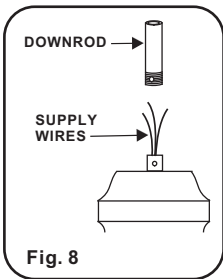
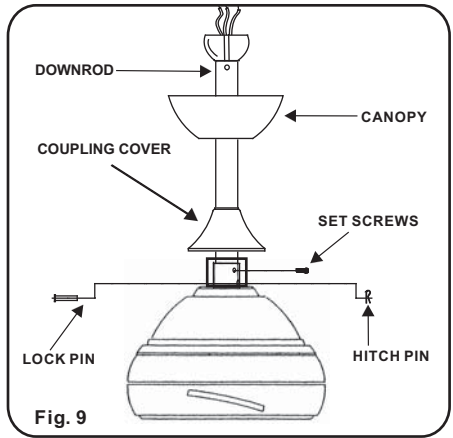

Fig. 8
Fig. 9
Step 4. Carefully feed fan wires up through the downrod. (Fig. 8) Thread Downrod into the Coupling until the holes are lined up and secure with the Lock Pin and Hitch Pin previously removed, tighten Set Screws. (Fig. 9)
Step 5. Slip Coupling Cover and Canopy onto Downrod. Carefully re-install the Hanger Ball onto the Downrod being sure that it's properly positioned over the Cross Pin and the wires are not twisted, tighten Set Screw. (Fig. 9)